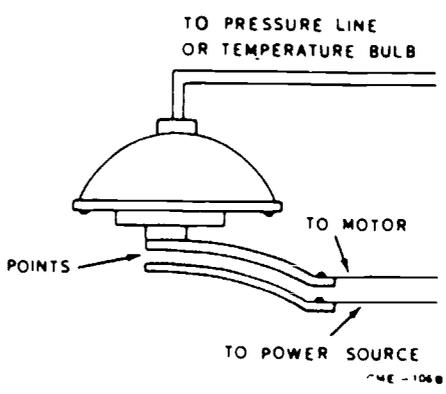

Figure 30. Diaphragm
**DIAPHRAGM.** A diaphragm-type power element (Figure 30) is used in some controls. The complete power element consists of a thermal bulb, capillary tube, and diaphragm filled with a liquid or gas. Changes in temperature at the bulb will cause an increase in the volume of the liquid and a subsequent change in the diaphragm. This movement of the diaphragm is used to open or close the electrical switch.
2. Diaphragm (Figure 30)